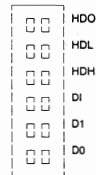

Figure 3
- By the combination with the DRIVE SELECT 0 and 1 signals, two addresses can be designated. Refer to Fig. 3 and Item 8.3.1.